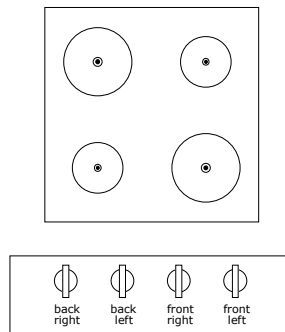

Figure 2.23: Arbitrary mapping of controls to hot plates. There are 24 possible arrangements, requiring the use of labels and memory.
- Arbitrary Mapping (see Figure 2.23).